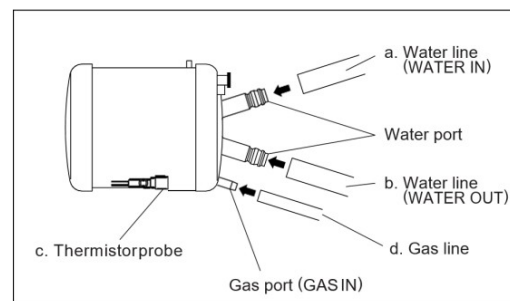

Figure 8
6. Connect the water lines (inner diameter of the tube; 12.7mm (1/2") or couplers) to the water ports of CAPIOX EBS circuit (Figure 8-a, 8-b).
8. Connect the thermistor probe and the temperature monitor cable (Figure 8-c).
9. Connect the gas line (inner diameter of the tube; 6.4mm (1/4")) to the gas port (GAS IN) (Figure 8-d).